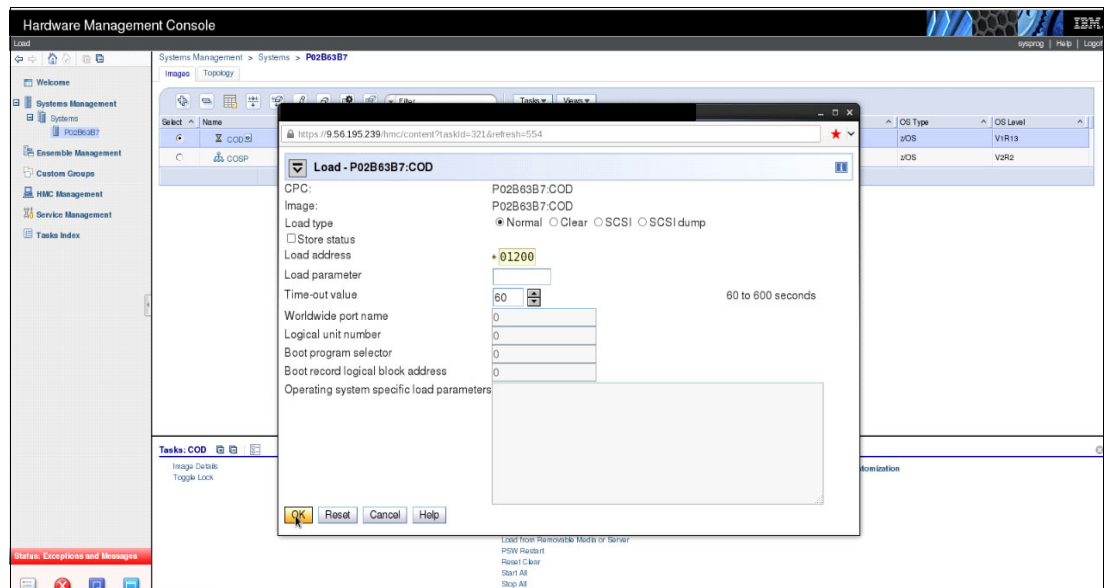

Figure 9-4 Load information
4. The Load window opens, as shown in Figure 9-4. We select **Load Type** normal and complete the Load Address field with the first SYSRES volume address (in our case, device address 1200). Then, we click **OK**.